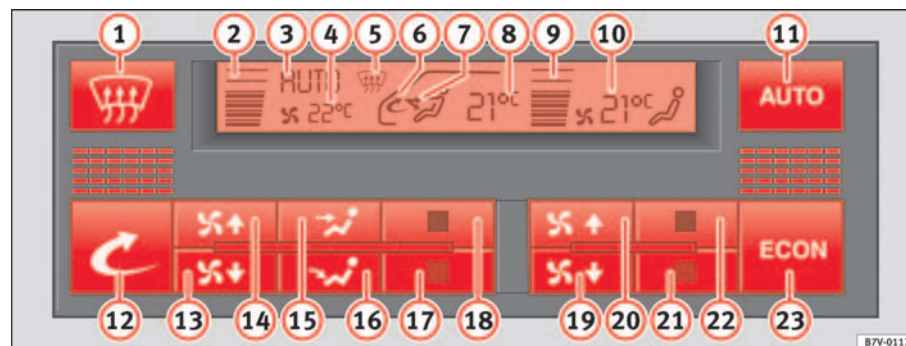

Fig. 119 Detail of the dash panel: Climatronic controls
- Press one of the air distribution buttons ⇒ fig. 119 **15** or **16** several times, or one of the temperature buttons **17** or **18**. **AUTO**
- Press the button  page 153, fig. 119  to switch air recirculation mode on or off. It is switched on if the symbol   is displayed on the screen.